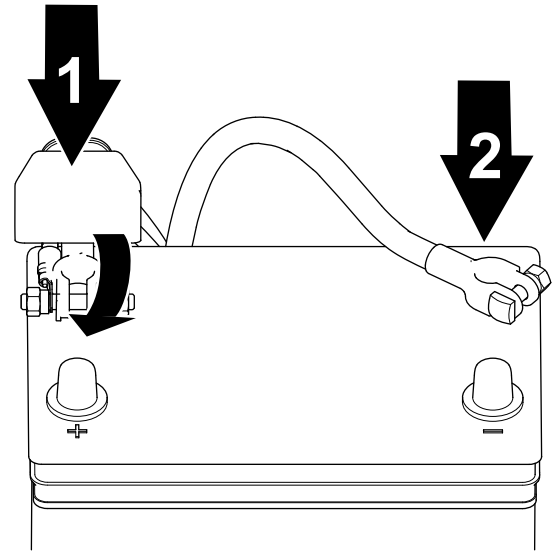

Figure 37
2. Connect the negative cable to the battery and tighten the battery-clamp nut (Figure 37).
1. Connect the positive cable to the battery and tighten the battery-clamp nut (Figure 37).